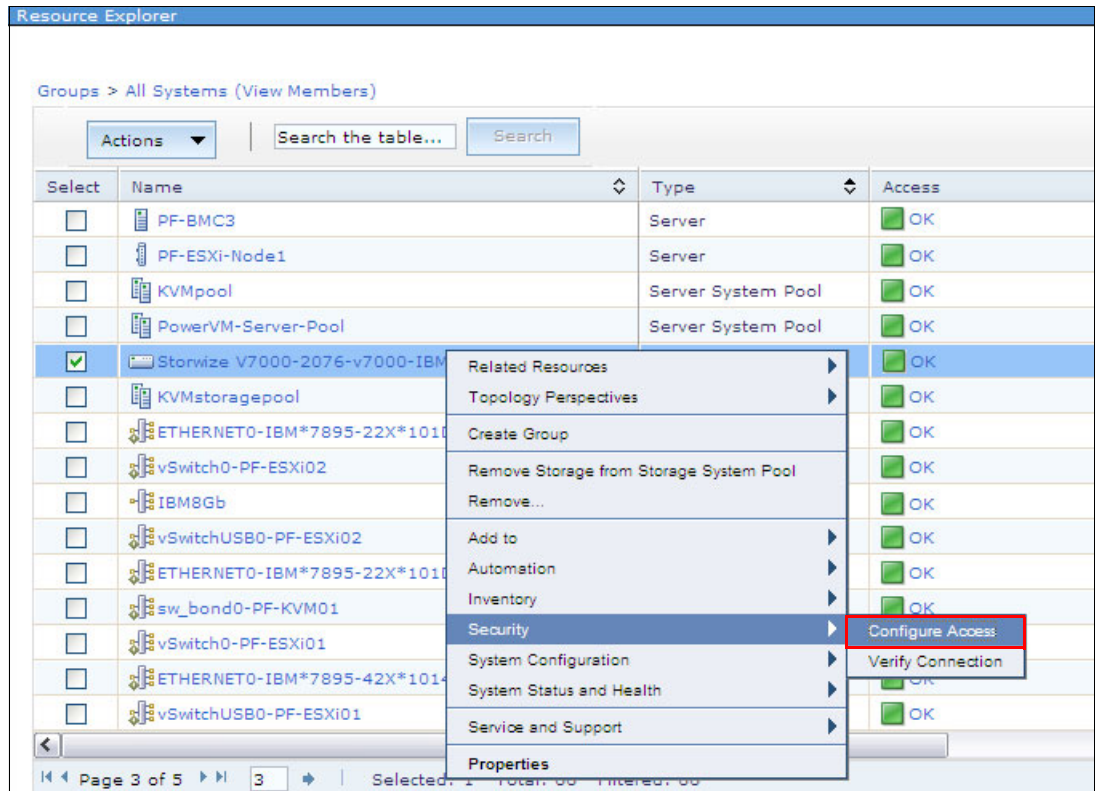

Figure 10-80 Checking the RSAP configuration
4. Check ssh in the Remote Service Access Point (RSAP) configuration as shown in Figure 10-80.